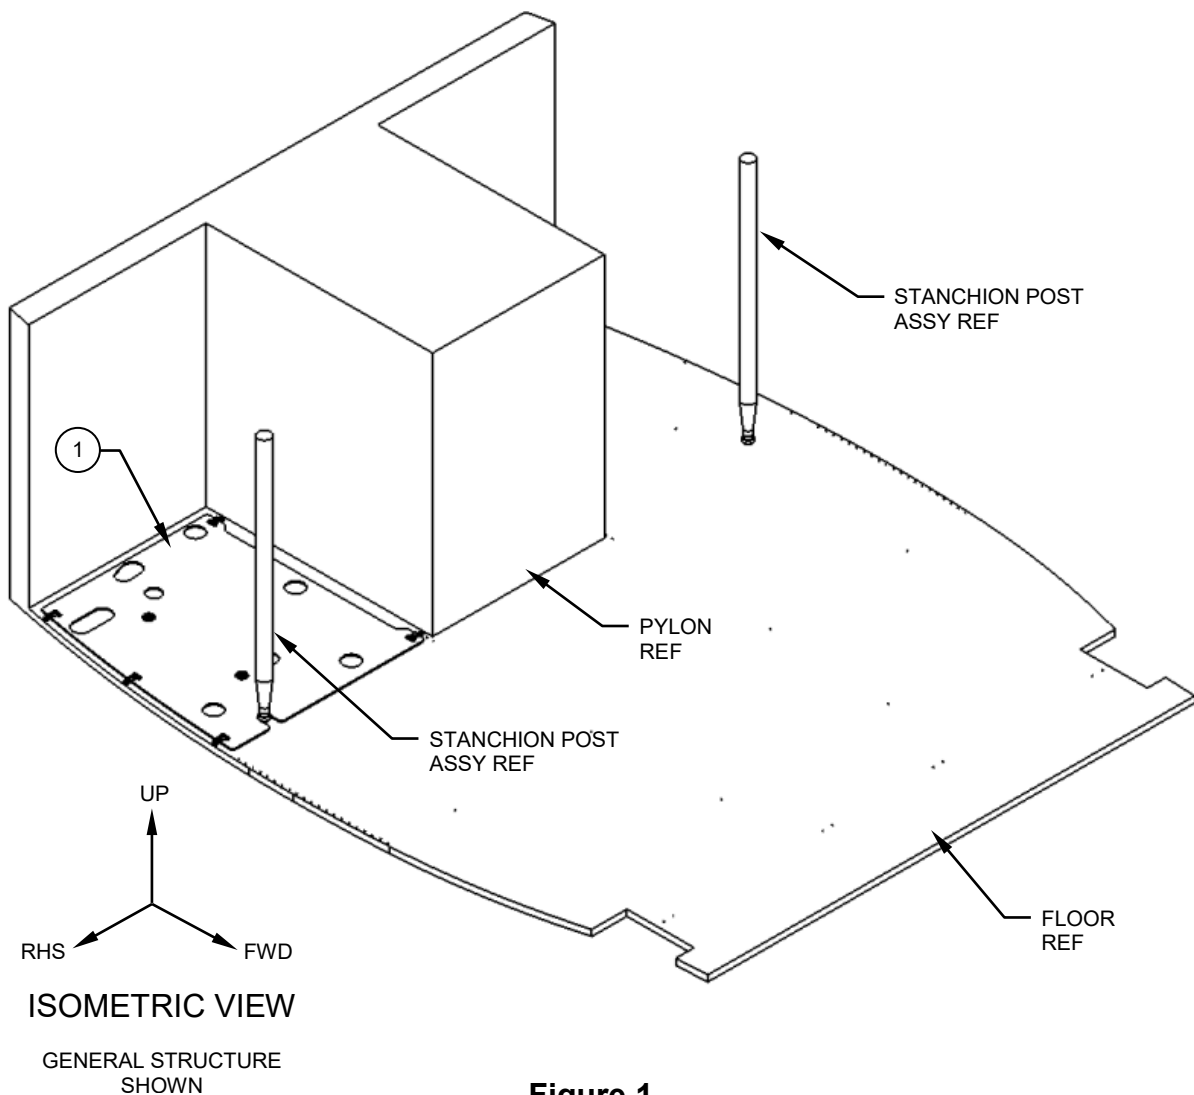

Figure 1
1. Temporarily remove the 2 Man, RHS, outboard facing seat/seat legs and any other fixed or loose items the may obstruct the installation of the Floor Board Assy, Item 1. Reference Figure 1.